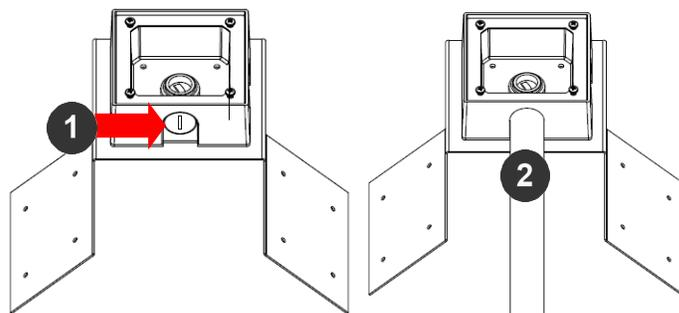

Figure 16: Attach conduit to AV-JBA junction box adapter
3. Attach the AV-JBA (Junction Box Adapter) to the Corner Mount Adapter (Figure 16).
4. Remove the conduit plug on the junction box adapter and connect $\frac{3}{4}$ " NPT conduit to the junction box adapter (Figure 16).